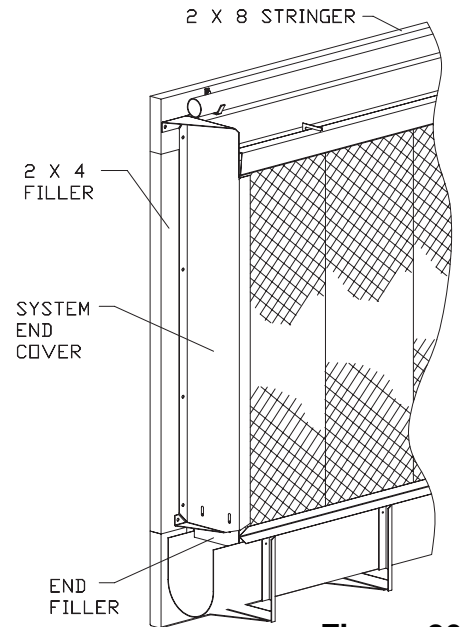

Figure 26
1. The system end covers attach to the stringer and to a 2" x 4" filler in the wall. Install a 2" x 4" filler between the top stringer and bottom stringer at each end of the pad system as shown in Figure 26.
3. Locate the two system end covers as shown in Figure 26. Position the system end cover against the bottom of the 1 1/2" pipe at the top of the system and fasten to the filler and stringers as shown in Figure 26 using the 1/4" x 1 1/2" screws provided.
4. Attach the end filler to the system end cover as shown in Figure 26 using the #10 x 1/2 inch screws provided.